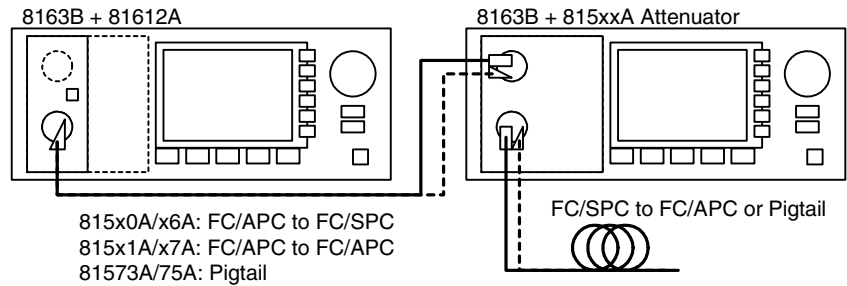

Figure 18 Return Loss Test Setup
- 11** Remove the reference cable and connect the equipment as shown in Figure 18.